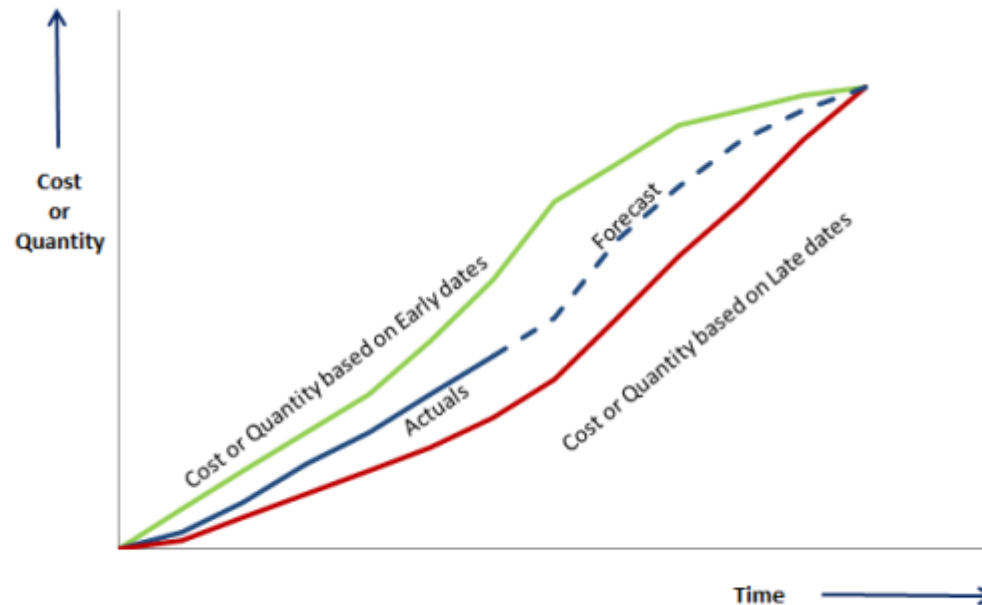

Figure 5 – Early/Late Date S-Curve with Actual Progress
- ❑ The **addition of the actual progress S-curve** (see Figure 5) provides stakeholders with information on variances and trends.